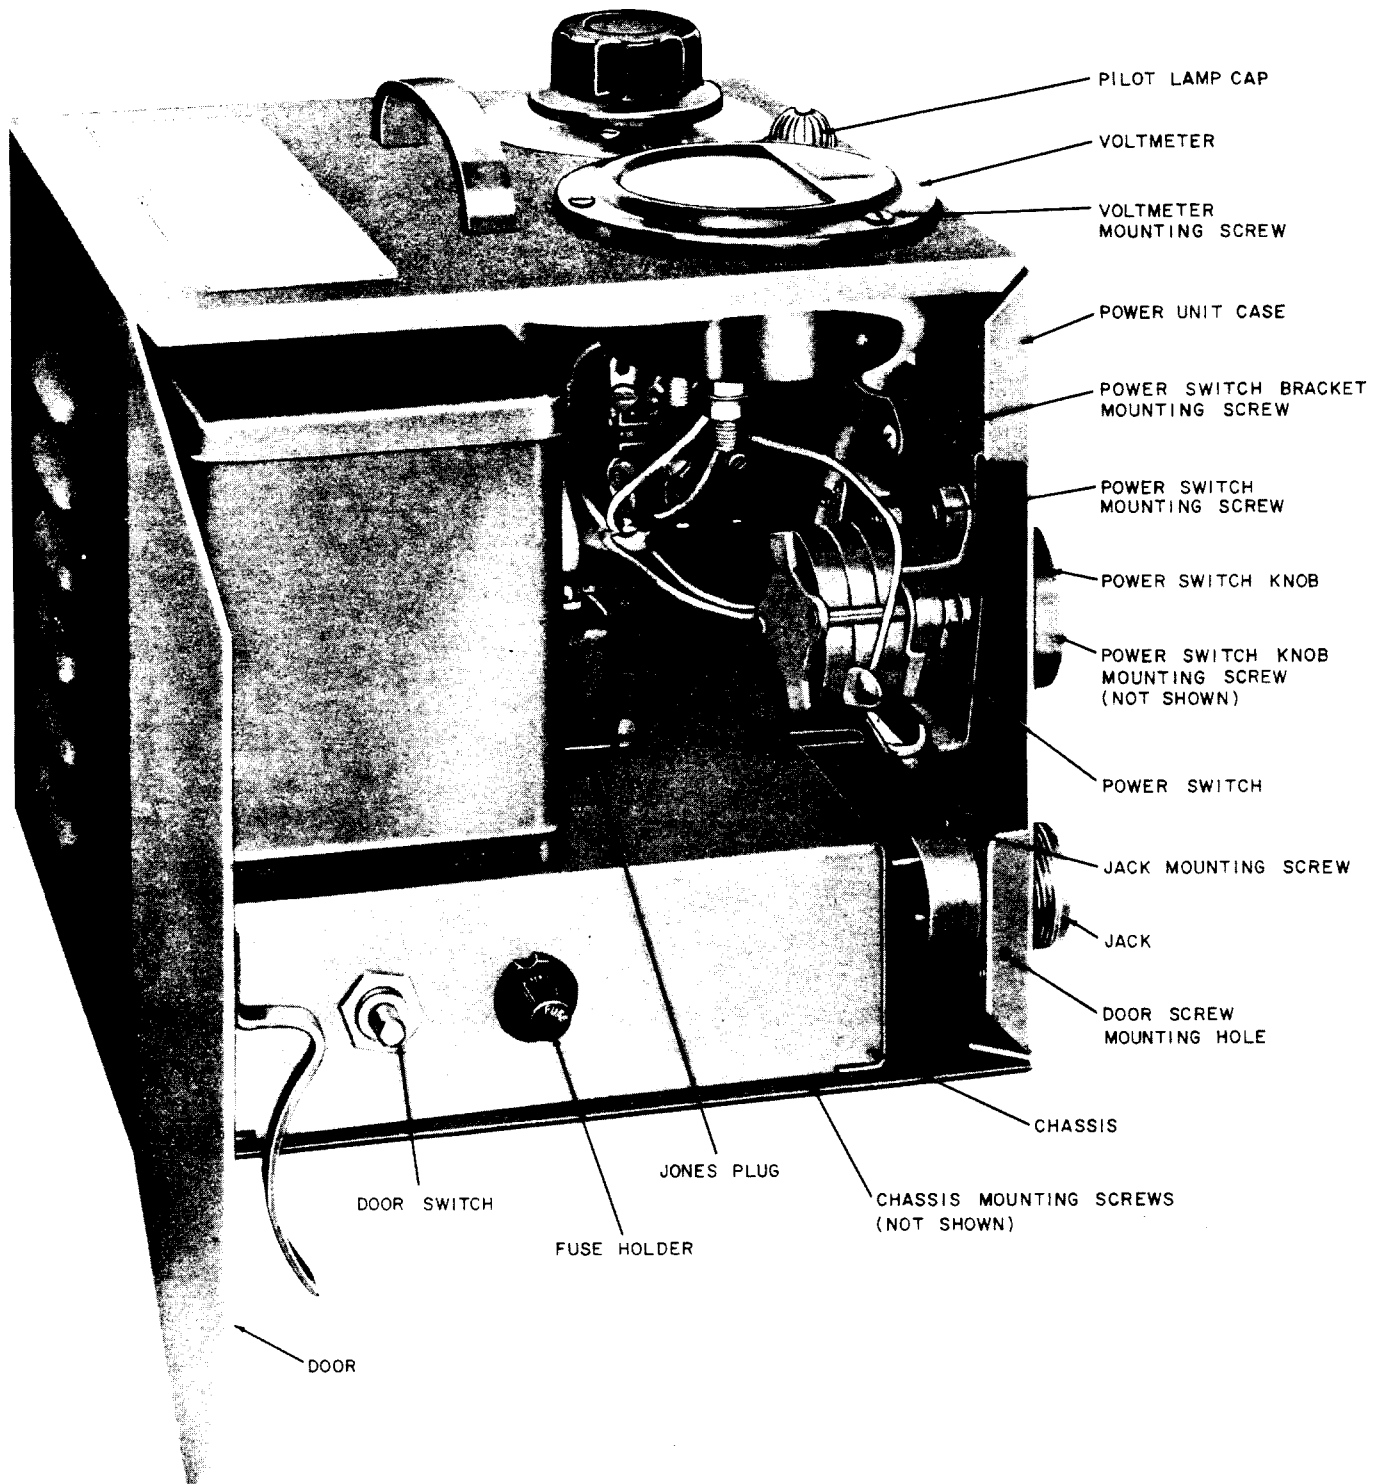

Fig. 16 — KS-14594 Power Unit
3.52 Power Switch: Fig. 16 —
- (1) Remove the switch knob mounting screw using the 3-inch C screwdriver taking care not to lose the lockwasher under the head of the screw and the spacing washers on the shaft of the screw between the knob and the switch shaft. Remove the door screws using the 3-inch C screwdriver and swing the door open. While holding the switch, remove the switch bracket mounting screws from the outside of the case using the 4-inch E screwdriver. Tag and unsolder the switch leads. Remove the switch from its mounting bracket using the 4-inch E screwdriver.
- (2) Substitute the new switch and mount all parts in reverse order of removal using spacers as required to prevent the switch knob binding on the case. Close the door and securely tighten the door screws.
3.53 *Pilot Lamp:* Fig. 16 — Unscrew the lamp cap. With the tips of the fingers, press the lamp inward and turn it counterclockwise to disengage it from the socket. Remove the lamp.
3.54 Voltmeter: Fig. 16 —
3.56 Door Switch: Fig. 16 — Tag and unsolder the door switch leads. Remove the switch mounting nut using the KS-6367 wrench and remove the switch. Mount the new switch and securely tighten its mounting nut. Connect and solder the leads.
3.57 Pilot Lamp Socket: Fig. 16 — Remove the pilot lamp as covered in 3.53. Unsolder and disconnect the lamp leads. Remove the lamp socket mounting nut and washer using the Williams No. 731 wrench. Remove the lamp socket. Mount the new lamp socket and securely tighten its nut making sure the lockwasher is in place. Connect and solder the leads. Mount the lamp in the new socket, as covered in 3.53.
3.58 Fuse Holder: Fig. 16 — Remove the fuse from the fuse holder. Tag and unsolder the fuse holder leads. Remove the fuse holder mounting nut using the Williams No. 29 wrench. Remove the fuse holder. Mount the new fuse holder and securely tighten its mounting nut. Connect and solder the leads. Mount the fuse in the new fuse holder.
3.59 Jack for Camera Cable: Fig. 16 — Unsolder the jack leads at the chassis terminals, tagging the terminals. Remove the jack and leads. The new jack is furnished with leads attached. Connect and solder the leads to the proper terminals.